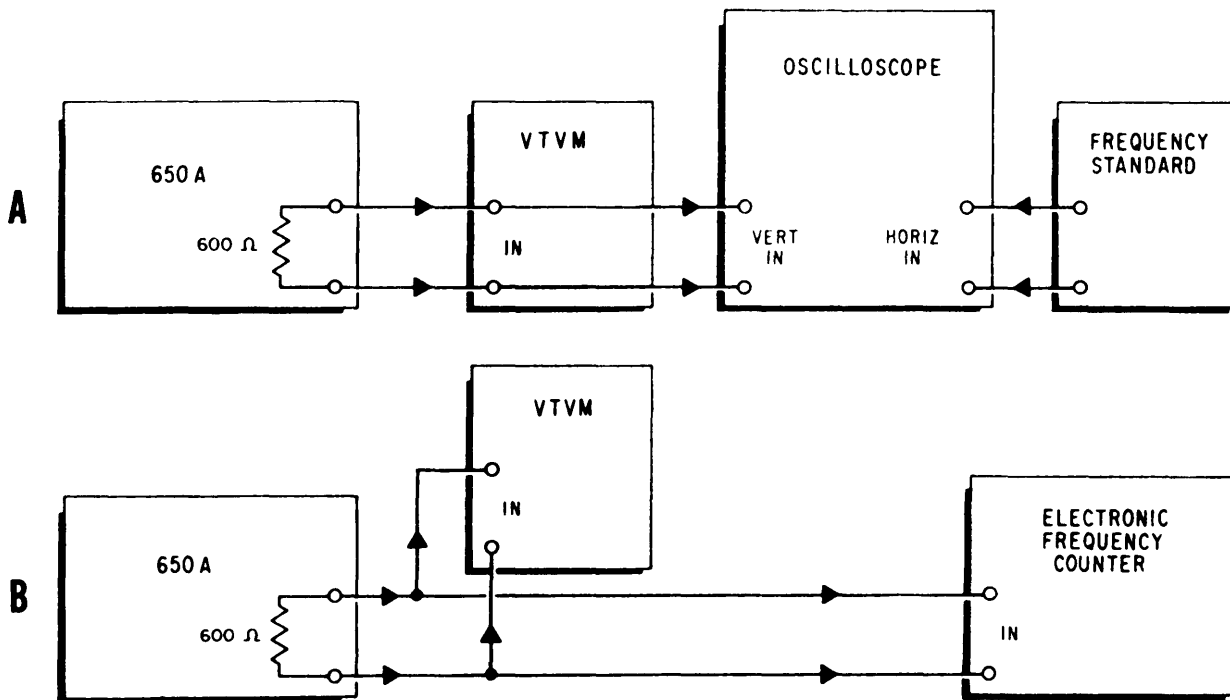

Figure 4-3. Calibration and Response Check for Low Frequency Oscillator (Figure B is suitable over entire 650A frequency range.)
Suggested setups for low frequency oscillator calibration and response checks are given in Figure 4-3. Any high impedance ac voltmeter capable of accurate voltage measurement from 10 cps to 100 kc can be used.
A. Connect a 600 ohm resistive load and frequency measuring equipment to 650A output terminals. See Figure 4-3.
- A. Connect voltmeter and frequency measuring equipment as shown in Figure 4-3.